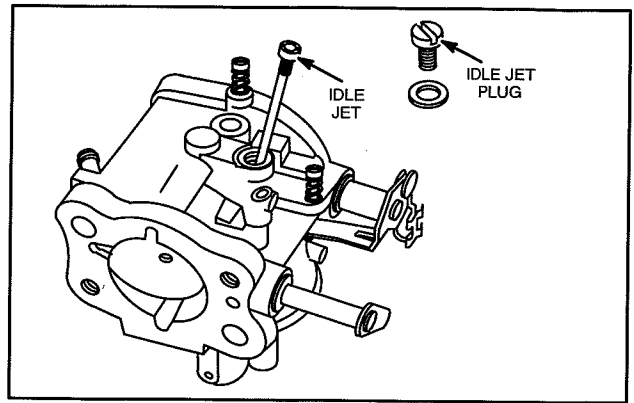

Fig. 8 – Remove Idle Jet
6. Remove idle jet plug and idle jet, Fig. 8.